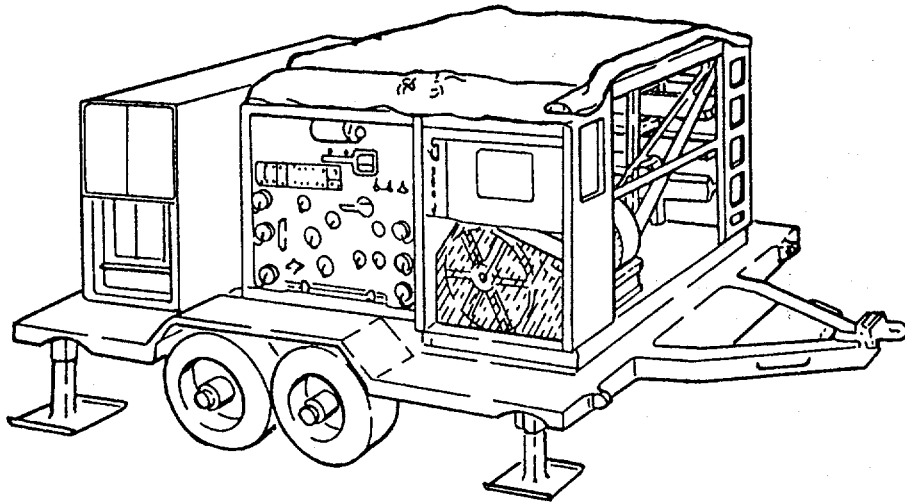
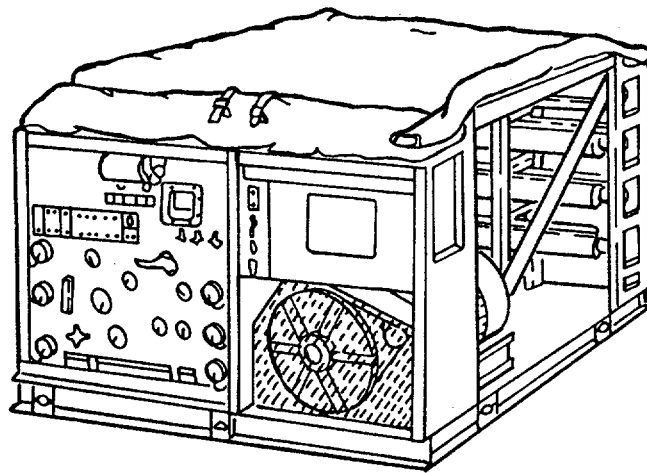

FIGURE 1-1. REVERSE OSMOSIS WATER PURIFICATION UNIT (ROWPU) (ARMY)
FIGURE 1-2. REVERSE OSMOSIS WATER PURIFICATION UNIT (ROWPU) (MC AND AF)
a. Characteristics. The ROWPU is a mobile water purifying unit needing a 30 KW power source, that supplies drinking water for troops in the field. (See figure 1-1 (ARMY) and figure 1-2 (MC and AF)).
(1) Flow systems within the ROWPU process raw water to make it drinkable. Special pumps, controlled by a built-in control panel, move the water through the ROWPU to produce as much as 10 gallons (37.8 liters) of drinking water per minute. This water is stored in a collapsible tank. The ROWPU can be transported by rail, road, or air.
(3) The ARMY, AIR FORCE (AF) and MARINE CORPS (MC) units are essentially the same except that the MC and AF ROWPU units are mounted on a skid and do not incorporate a generator. The AF and the MC units have four forklift pockets.